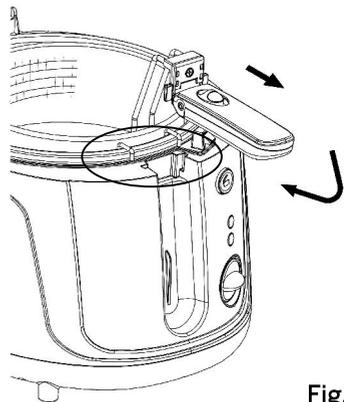

Fig.4
- The drainage position for the frying basket - See fig. 4
13. When frying is complete, open the lid and hook the basket onto the front lip of the oil tank (fig. 4) to permit the oil to drain back into the oil tank for a short while.